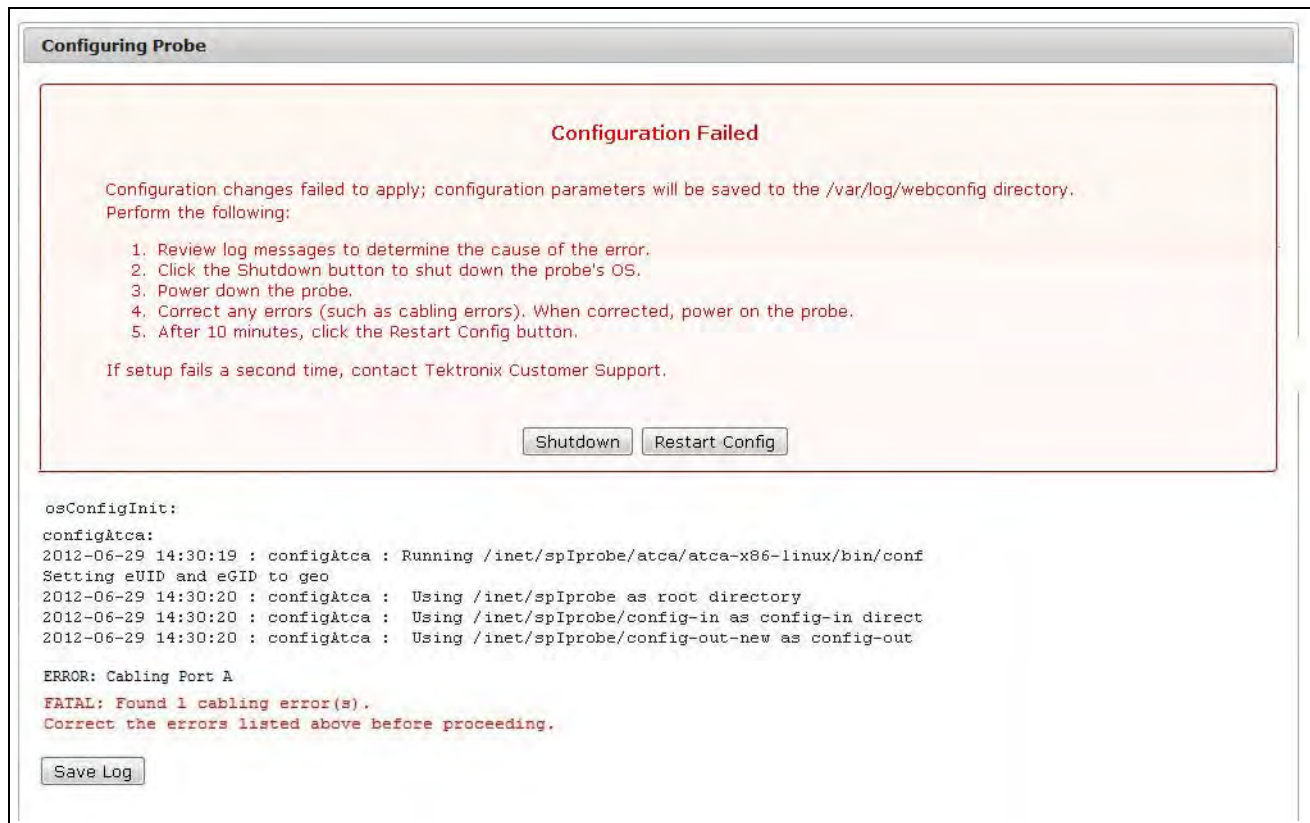

Figure 4.18 - Example Configuration Failed Window
11. If the configuration failed, the following screen displays (Figure 4.18). Configuration changes failed to apply; configuration parameters will be saved to /var/log/webconfig directory. Perform the following: